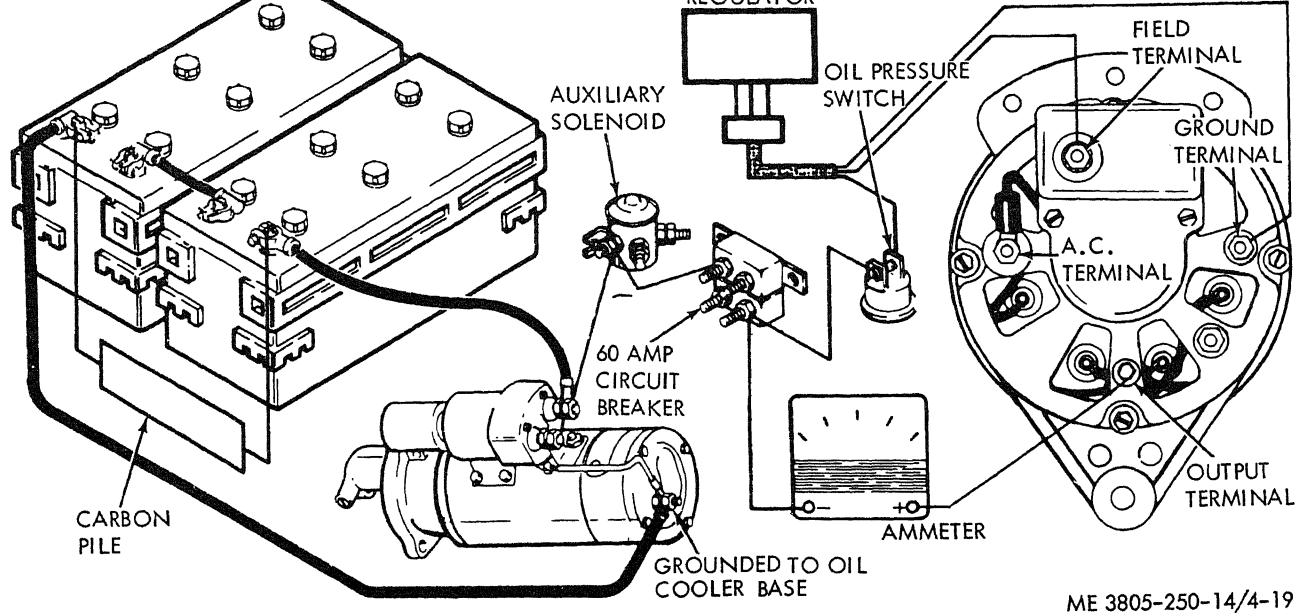

Figure 4-19. Alternator output test setup.
(4) Arrange the circuit as shown in figure 4-19 and perform the alternator output test as follows: